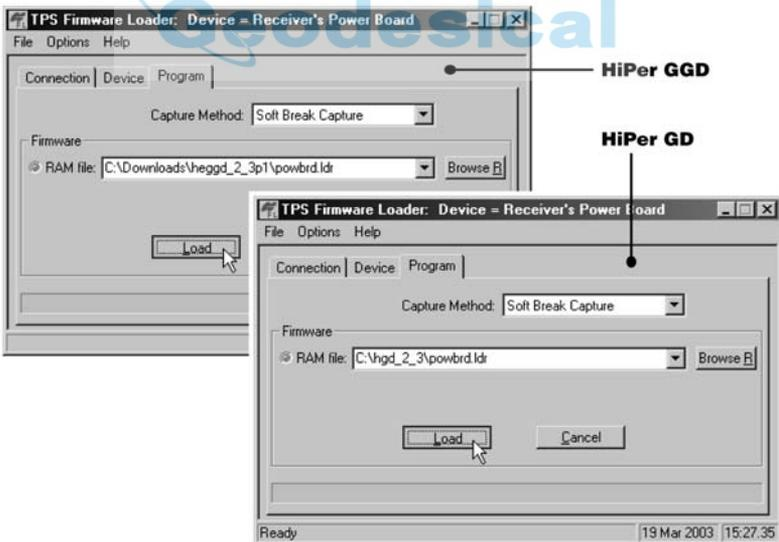

Figure 4-22. Program Tab Settings
13. Select the **Program** tab and set the Capture Method to Soft Break Capture (recommended) (Figure 4-22).
14. Browse for and select the Power board's RAM file (Figure 4-22 on page 4-27).